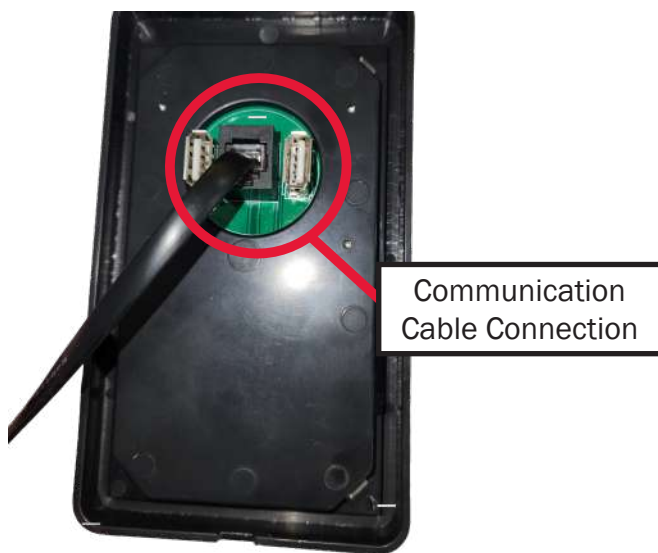

Figure 33
4. Connect the Communication cable to the back of the LCD screen. Reference Figure 33.